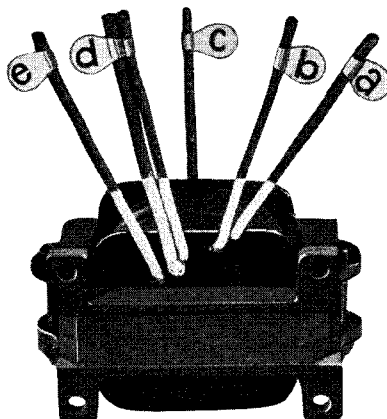
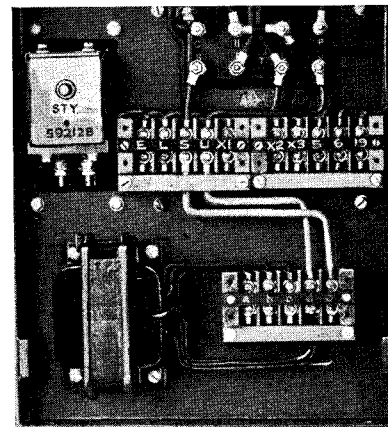

FIGURE 2.
FIGURE 3.
- (2) Mount phase angle transformer (Fig. 2) in position as shown in Fig. 3, first spreading leads so they can be easily identified after transformer is in place. See Fig. 2.
- (3) Mount terminal block cleat and marking strip as shown in Fig. 3.